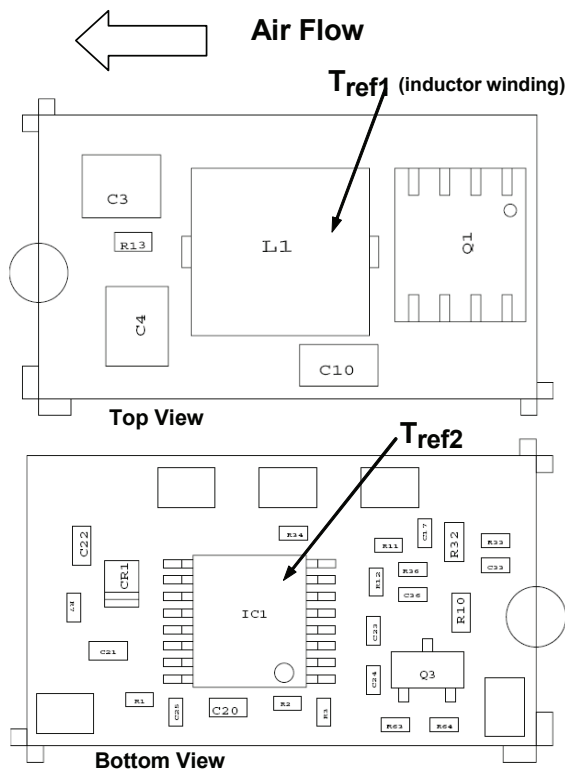
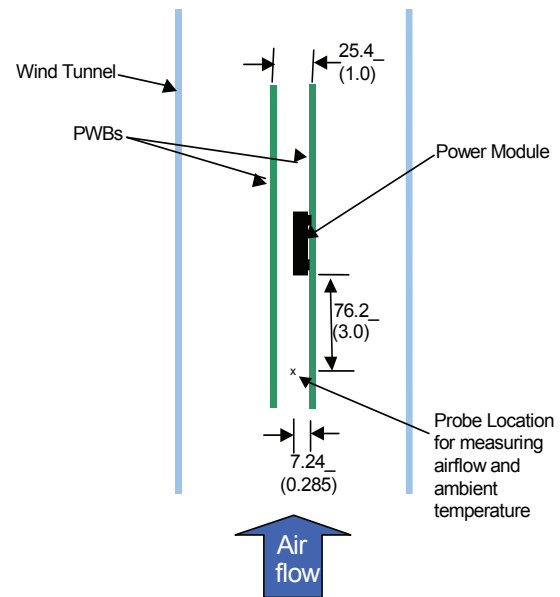

Figure 31.  $T_{ref}$  Temperature measurement location.
Figure 32. Thermal Test Set-up.
To provide over temperature protection in a fault condition, the unit relies upon the thermal protection feature of the controller IC. The unit will shutdown if the thermal reference point  $T_{ref2}$ , (see Figure 31) exceeds  $140^{\circ}C$  (typical), but the thermal shutdown is not intended as a guarantee that the unit will survive temperatures beyond its rating. The module will automatically restarts after it cools down.
Considerations include ambient temperature, airflow, module power dissipation, and the need for increased reliability. A reduction in the operating temperature of the module will result in an increase in reliability. The thermal data presented here is based on physical measurements taken in a wind tunnel. The test set-up is shown in Figure 32. Note that the airflow is parallel to the long axis of the module as shown in figure 31. The derating data applies to airflow in either direction of the module's long axis.
The thermal reference points,  $T_{ref1}$  and  $T_{ref2}$  used in the specifications of thermal derating curves are shown in Figure 31. For reliable operation these temperatures should not exceed 125°C.